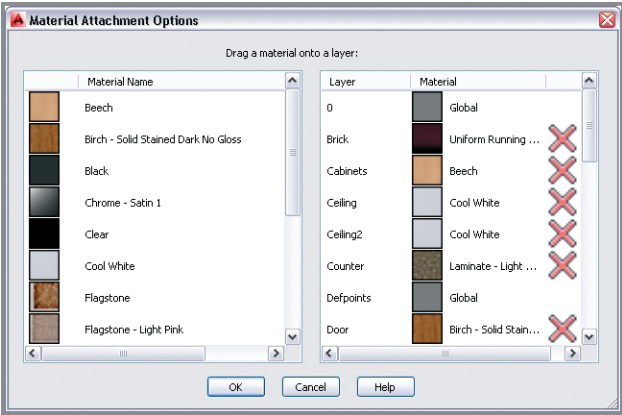

FIGURE 18.4 Assigning materials to layers by dragging from the left pane to the right pane in the Material Attachment Options dialog box
6. Expand the Materials panel, and select the Attach By Layer tool. Click the Layer header to sort the list of layers in reverse alphabetical order. Click the Layer header again to sort in alphabetical order. Drag materials from the left side, and drop them on the right side according to Table 18.2. Figure 18.4 shows the dialog box with all the necessary materials selected. Click OK to close the Material Attachment Options dialog box.